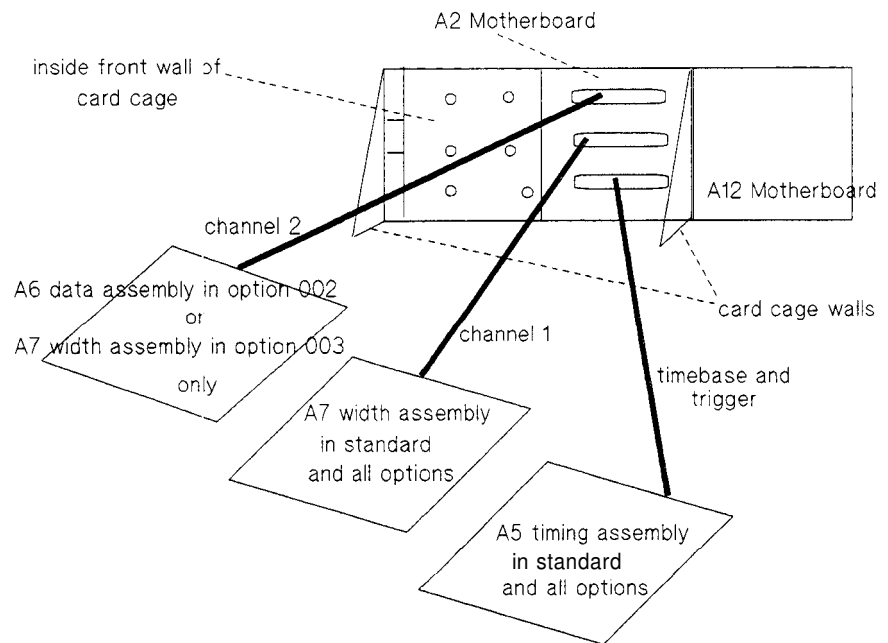

Figure 5-3. Card cage assembly locations
1. Refer to Figure 5-3 to identify which assemblies are fitted to your instrument.